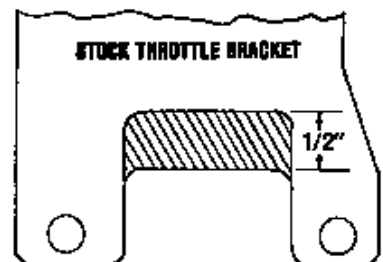

Figure 3—Remove shaded
1. Due to the design and leg configuration on the Edelbrock manifold, the throttle and kick-down bracket on some model vehicles requires modification to fit. If this condition occurs with your installation, you may purchase the Edelbrock mounting bracket #8030, #8036, or modify your bracket as shown in Figure 3.